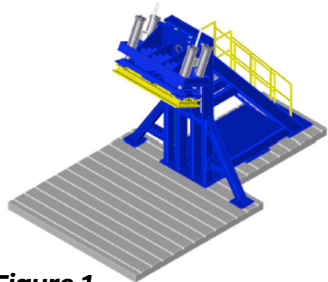

Figure 1.
- » When conducting the activity, students should briefly and gently press the pencil between their palms or the index fingers of their left and right hands (see Figures 1 and 2 on the student activity sheet). And, students should only test themselves; they cannot use their pencils to test other students.
3. Review the Procedure for Parts 1 and 2 of the activity, refer to Figures 1 and 2 on the activity sheet, and demonstrate how to safely press the pencil between your palms or between your left and right index fingers. Review the following Safety Considerations: